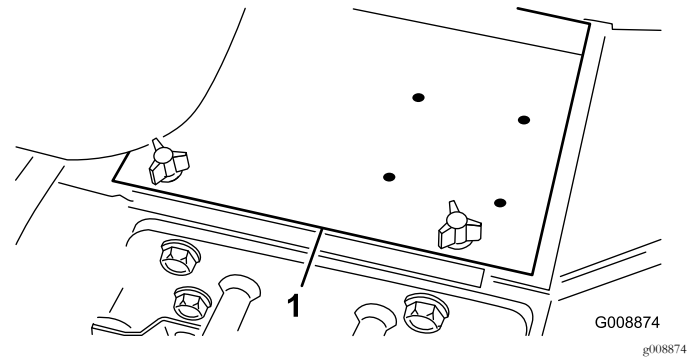

Figure 4
3. Remove the battery cover (Figure 4).